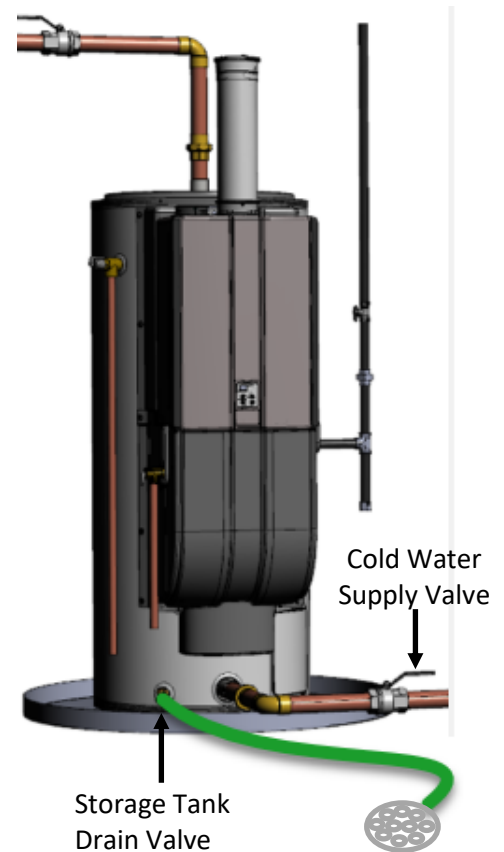

Figure 1. Cold Water Supply and Drain Valves
- 3 Turn off the cold water supply valve located on the cold water supply line feeding the system (Figure 1).
- Connect one end of a garden hose to the storage tank drain valve and place the other end next to a free-flowing drain (Figure 1).